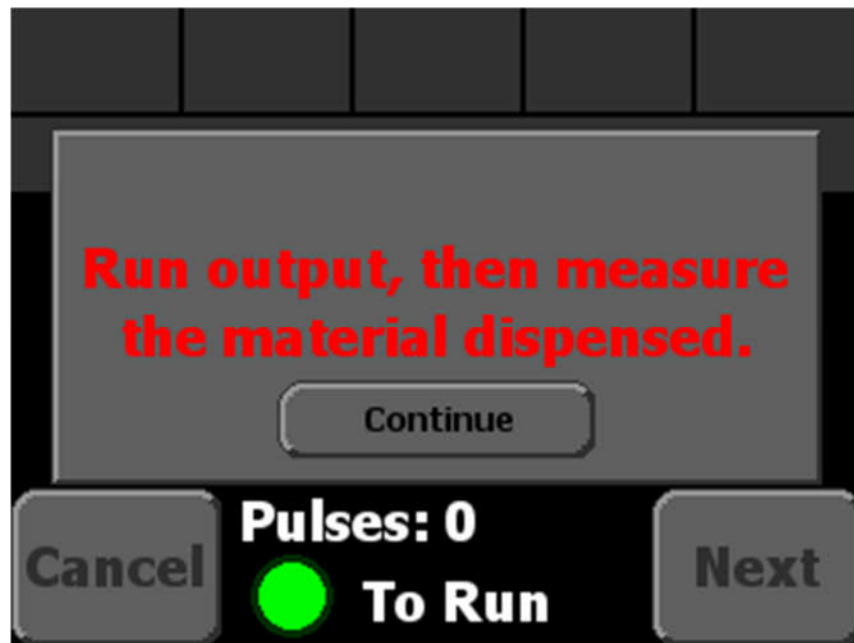

Figure 10: Direct AutoCal Screen
- STEP 4: The Direct AutoCal screen will appear, as shown in Figure 10.